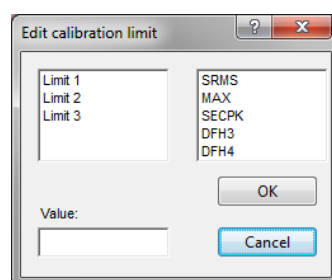

Figure 3.35: The *Edit calibration limit* dialog box to enter parameter thresholds from the calibration window.
- 16.5 Select **HDA** > **Edit limit** to call the *Edit calibration limit* dialog box (see Figure 3.35).